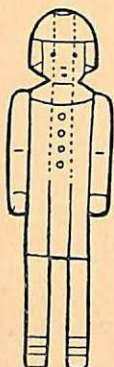

Fig. 2
MARY, 7 in. high. This figure is made of three layers of wood, cut out separately and glued together, with the addition of two extra pieces for the arms (see Fig. 2).
4. Shape the head and neck with the knife, as it should not be as wide as the shoulders (see Fig. 2). Shape the arms and legs if need be, but keep everything as direct and simple as possible. Do not aim at elaborate realistic carving.